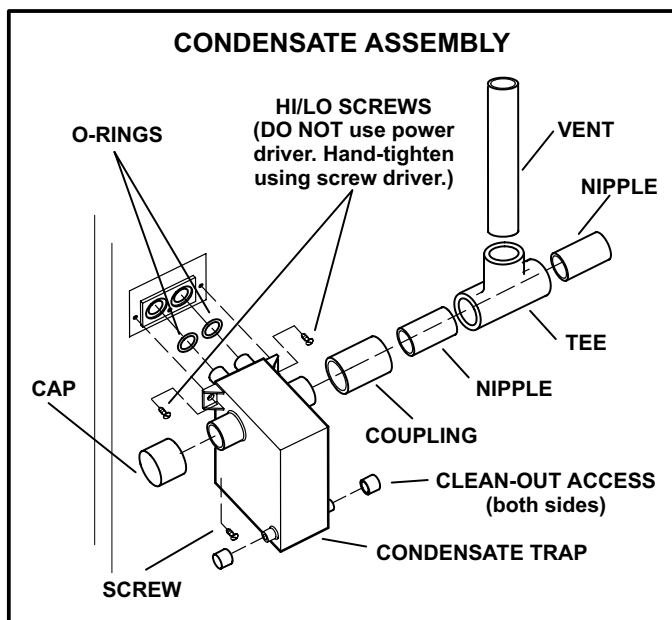

FIGURE 41
- 2 - Install condensate trap onto the condensate collar. Use provided HI/LO screws to secure two upper flanges of the trap to the collar. Use provided sheet metal screw to secure bottom trap flange to side of unit. See figure 41.